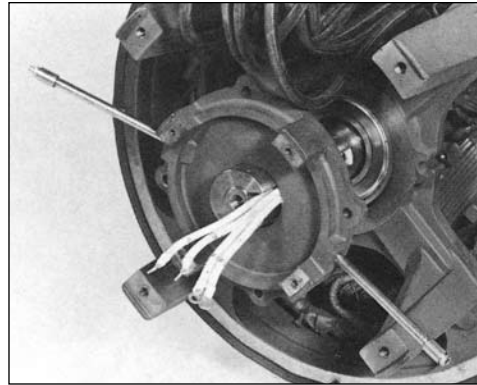
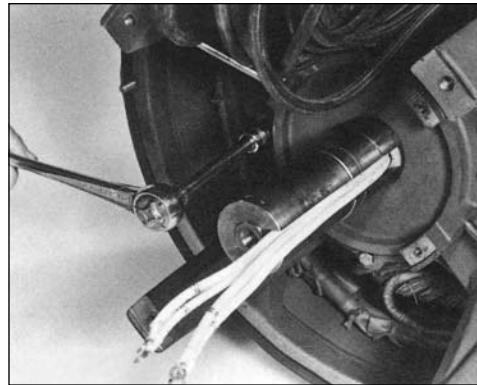

Figure 6-63
Figure 6-64
5. Install the outer bearing cap on the exciter end (figure 6-63). Align holes in inner and outer bearing cap and install cap screws. Torque to 25 ft-lb (34 N-m) – (figure 6-64.)